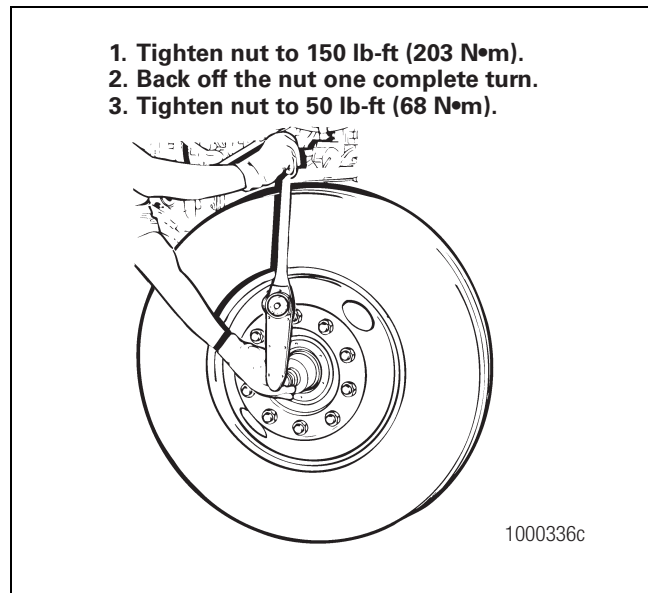

Figure 7.4
9. Use a torque wrench to tighten the adjusting nut to 150 lb-ft (203 N•m) while rotating the tire a minimum of five revolutions. Figure 7.4.
10. Back off the nut one complete turn. Tighten the nut to 50 lb-ft (68 N•m). Figure 7.4.